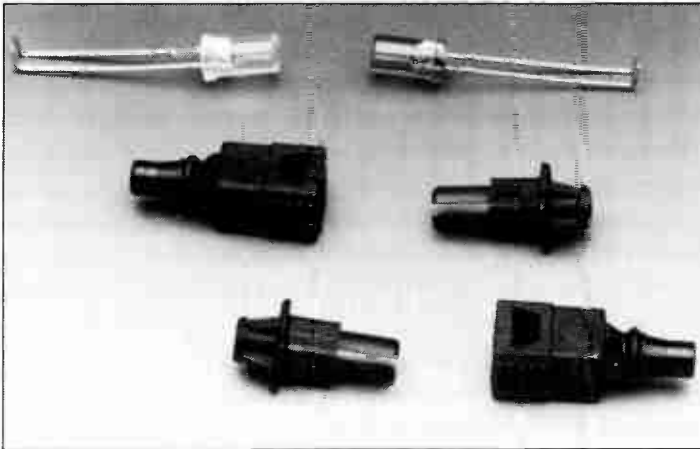

Fig. 4. Various transmit and receive diodes are available.
There are various types of transmit and receive diode that can be used—see Fig. 4. Those used in the prototype (and given in the Parts list) can be mounted directly on to the PCB. There are, however, other possibilities. For instance, Fig. 4 shows diodes integrated in a housing, to which the optical-fibre cable is fitted, that can be mounted directly on to the enclosure of the transmitter and the receiver. This type is connected to the PCB via two short lengths of wire. There are yet other types available: see the various mail order catalogues or ask your local retailer.
Figure 3 shows the construction of the antenna, which consists of a total of 46 ft (14 m) white PVC covered 7/0.2 mm stranded wire. The insulated spacers, shown in Fig. 4, are made of white plastic sprung edging strip obtainable from most DIY stores. White was used throughout for spacers and wire since it is inconspicuous against a white ceiling. Thin white nylon cord supports the end of the Flat-top 80 diagonally across the room.
Three 15 in (38 cm) and three 6 in (15 cm) long spacers are cut as shown in Fig. 4; in each of these, two 1/16 in (1.5 mm) holes are drilled 1/2 in (12.5 mm) inside the ends as shown (H).
Commencing at one end, the wire is fed through the 1/16 in holes in the three short and the three long spacers (Fig. 3 and Fig. 4). The sprung plastic spacers securely grip the wire. The spacers are next adjusted by sliding them along the wire to form the lengths shown in Fig. 3. Thin nylon cord is fed through the two end spacers of the horizontal section (Fig. 4) and fastened to hooks in the diagonal corners of the room, leaving the 4 ft (1.22 m) drop down to the resonator and the 2 ft (61 cm) down at the far end. At this stage, the spacers can be moved slightly on the wires to balance up the assembly.